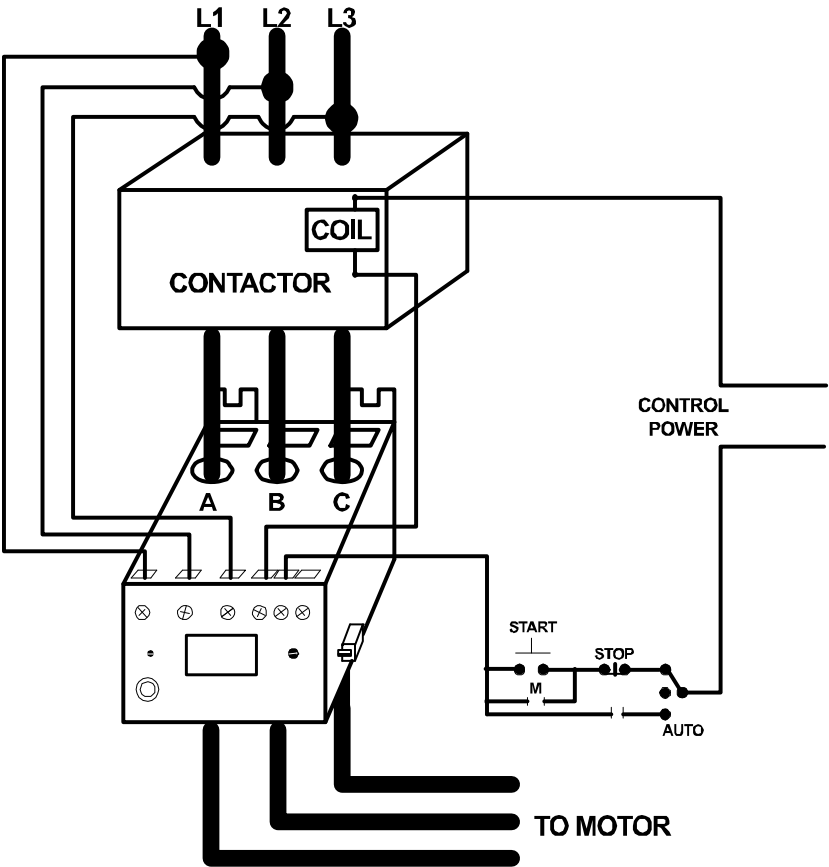

Figure 2: Typical Wiring Diagram
3. a) For amperages from 20-90 amps, insert the motor conductors through the holes marked A, B, and C. Ensure the motor phase conductors correspond with the round hole designations, i.e. the A phase conductor should go through the round hole marked "A". See Figure 2 for a typical wiring diagram.
- 5. Connect the control circuit wires to the appropriate terminals. The relay is designed for fail-safe operation; the NO (normally open) contact should be in series with the coil on the contactor for motor control (see Figure 2). For alarm circuits, the NC (normally closed) contact is in series with the alarm circuitry.